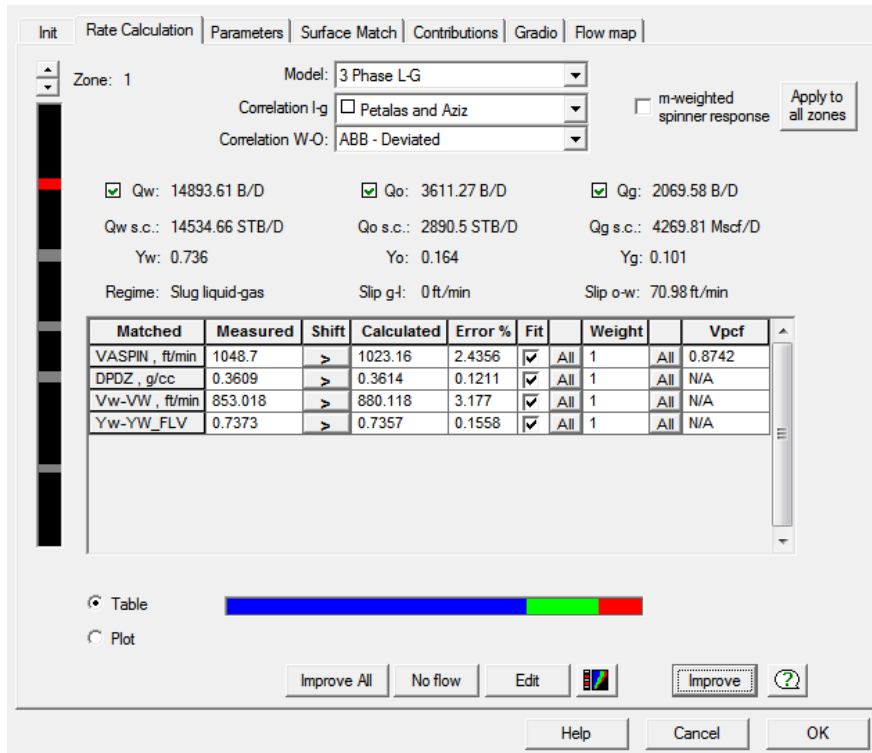

Fig. B05.33 • Zone Rates
- the regression is using Vapp, Density, YW, and VW, Fig. B05.33.